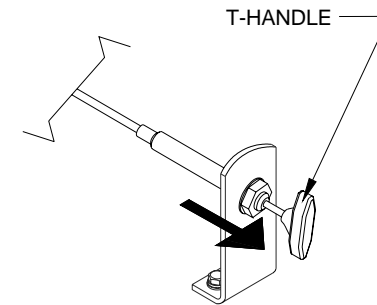

FIGURE 2-17: DISENGAGE PLATFORM FROM ENCLOSURE
- 3) Refer to **Figure 2-17**. Release the platform from the enclosure by pulling the T-handle outward about one inch and holding it out.